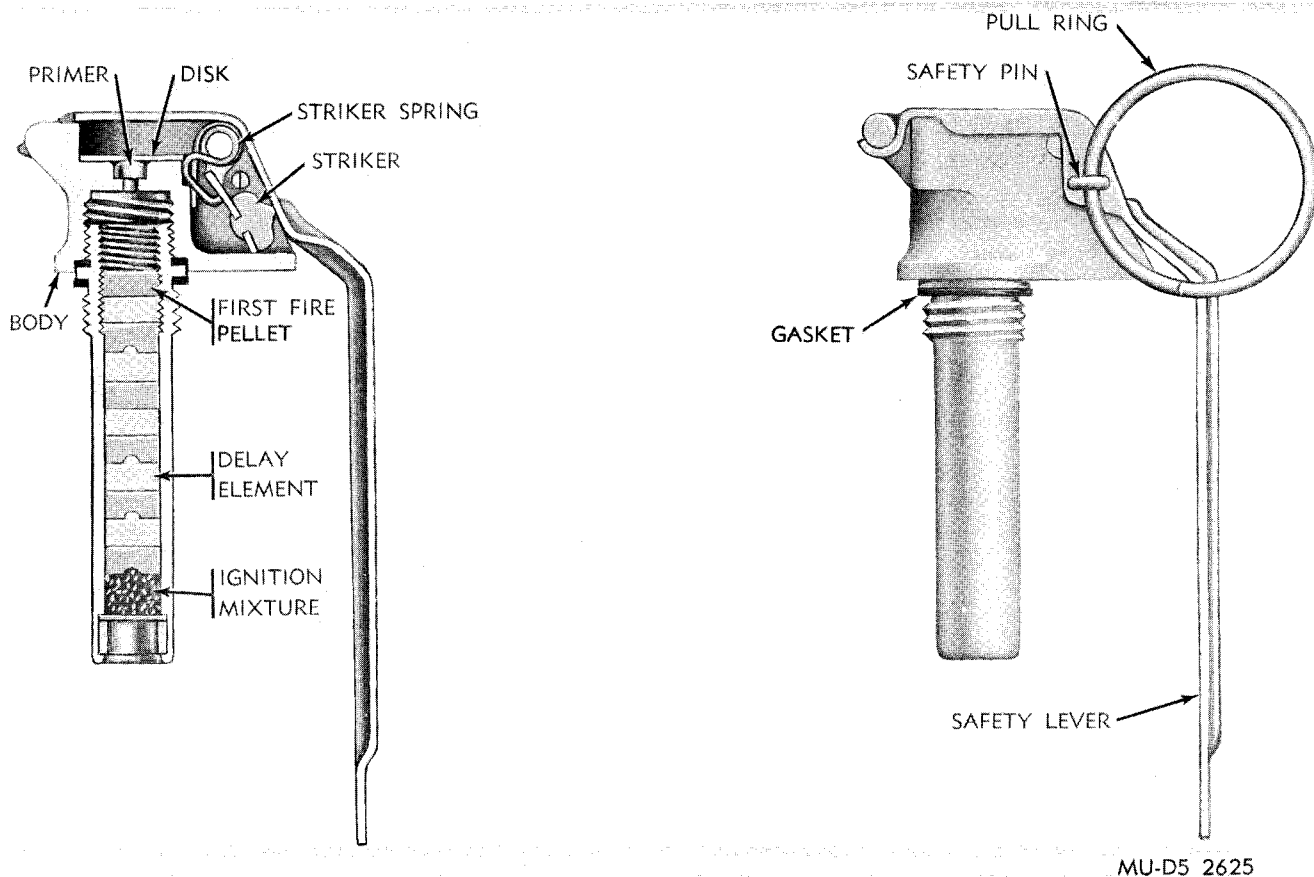

Figure 2-24. Hand grenade fuze M226.
(2) *Fuze, hand grenade: M226.* Fuze, M226 (fig. 2-24) is a pyrotechnic delay-igniting fuze. The body contains a primer, first-fire mixture, delay column, and ignition mixture. Assembled to the body are a striker, striker spring, safety lever and safety pin with a pull ring. The split end of the safety pin has an angular spread.